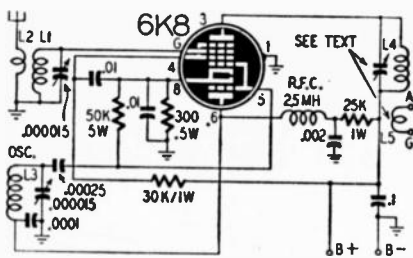

Fig. 204
A. Fig. 204 is a converter diagram that covers your requirements. This